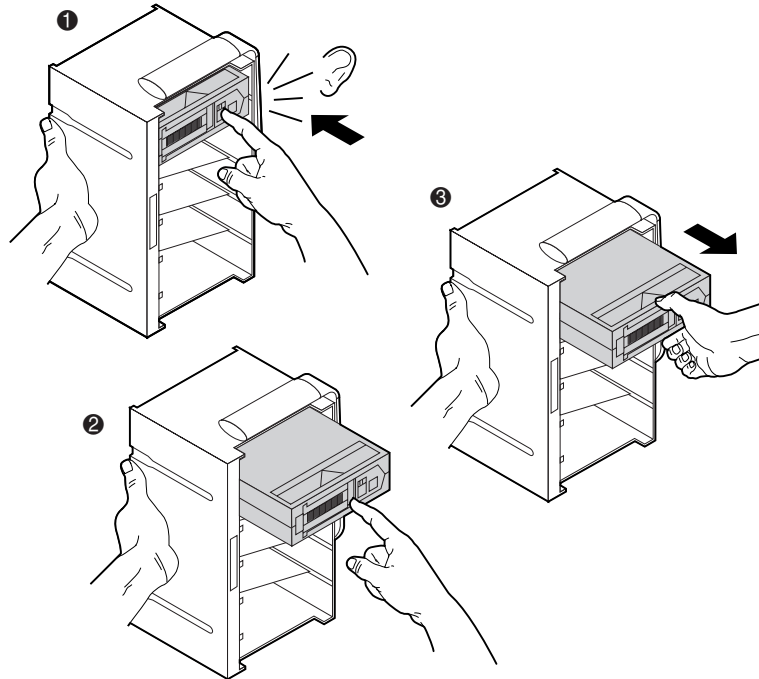

Figure 2-14. Removing a tape cartridge
1. Push the tape cartridge in until you hear a snap (❶ Figure 2-14).
2. Eject the tape cartridge (❷ Figure 2-14).
3. Remove the tape cartridge (❸ Figure 2-14).